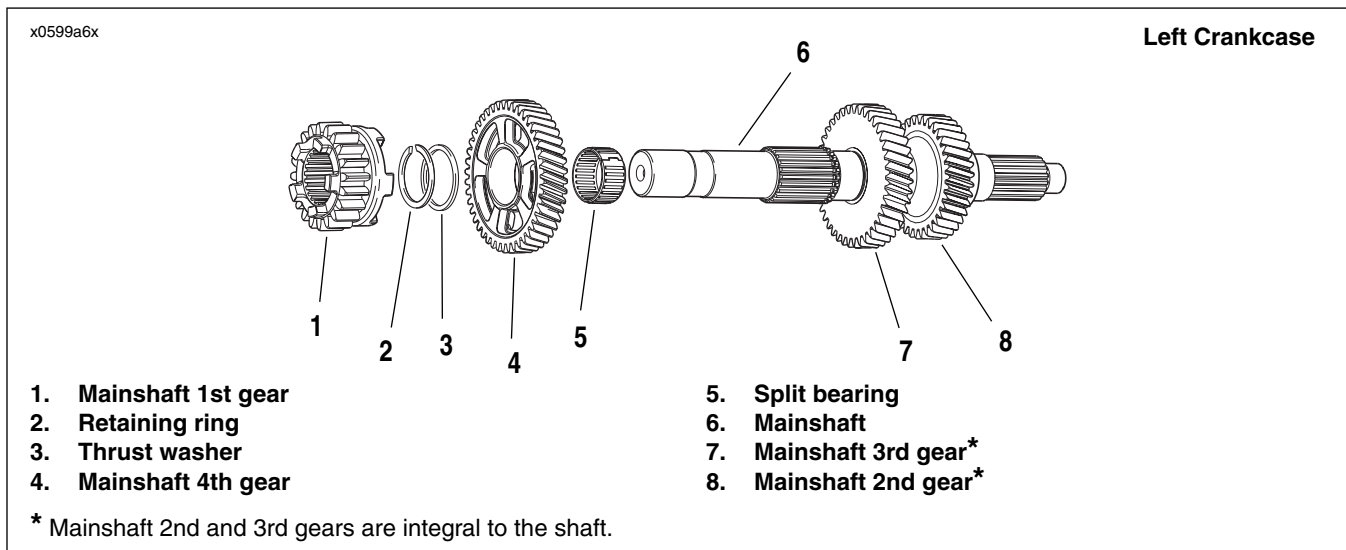

Figure 6-61. Transmission Mainshaft Assembly Once Removed from Left Crankcase/Disassembly
- See Figure 6-61. Remove 1st gear (1).
- Use RETAINING RING PLIERS (Part No. J-5586) to expand and remove retaining ring (2). Discard retaining ring.
- Slide thrust washer (3) off end of mainshaft.
- Remove 4th gear (4) and split bearing (5). Discard bearing.